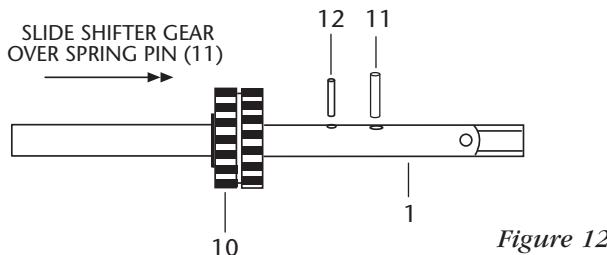

Figure 12
- Install pin (**Item 11**) through crankshaft (**Item 1**) and slide the shifter gear (**Item 10**) in place with the recess in the shifter gear over the pin. Now, secure the gear in place using the retaining pin (**Item 12**). See **Figure 12**.